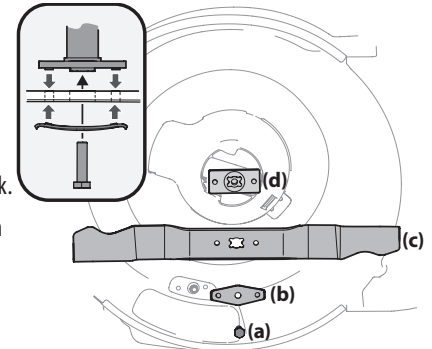

Figure 16
4. Remove bolt (a) and blade bell support (b) which hold the blade and the blade adapter to the engine crankshaft. See Figure 16.
5. Remove blade (c) and adapter (d) from the crankshaft. See Figure 16.
7. Lubricate the engine crankshaft and the inner surface of the blade adapter with light oil. See Figure 16 inset.